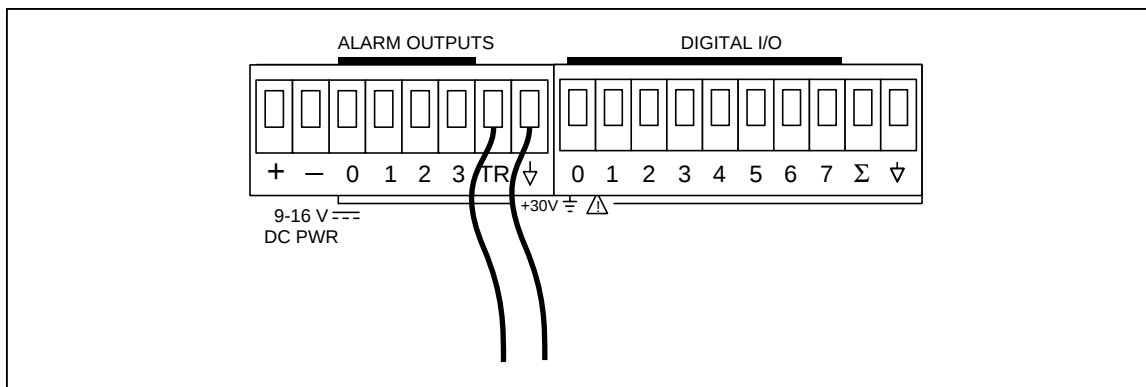

Figure 6-5. External Trigger Test
2. Remove the Alarm Output eight terminal connector module from the rear of Hydra Series II and all external connections to it. Connect short wires (to be used as test leads) to the ground ($\perp$) and TR terminals. Leave other ends of wires unconnected at this time. Reinstall the connector. Refer to Figure 6-5.